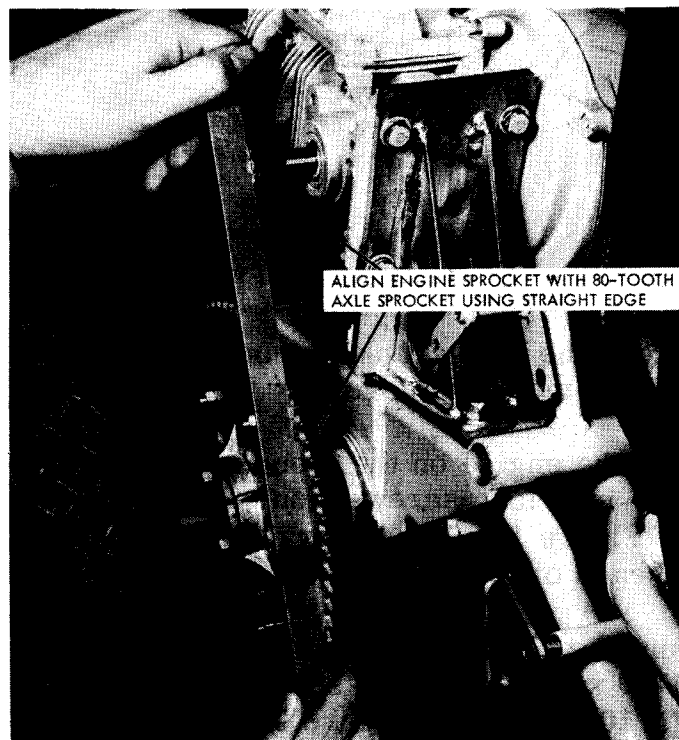

FIGURE 3
6. Align the engine Sprocket with the 80-tooth axle Sprocket (see Figure 3). It may be necessary to loosen the four nuts securing the mounting bracket and to move the bracket to the right or left (whichever direction is necessary) until the Sprockets lie in the same plane.